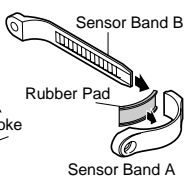
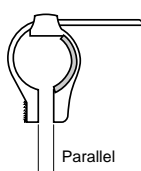

Fig.8
Fig.9
1. Insert the band B into the slit of band A, and put the rubber pad inside of the band A (Fig. 8). Adjust the length in order that the screw-fastening part of the bands are parallel when mounted to the fork (Fig. 9).